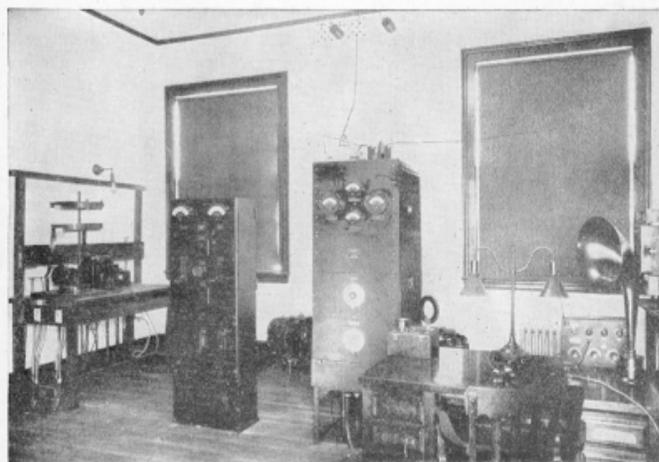

FIG. 4. VIEW OF OPERATING ROOM SHOWING SPARK TELEGRAPH SET AT LEFT
**Radio Telegraph Transmitting Equipment**-Other transmitters are employed for experimental and relay work using the call letters 2 X A P and 2 C D C. At the extreme left of Figure 4 is shown a 1 kilowatt spark transmitter using a 15,000 volt transformer and a non-synchronous rotary gap. In the background of Figure 2 is shown a 100 watt continuous wave telegraph set employing the Colpitt's circuit. This set may also be used as a 50 watt telephone transmitter for local work. It is supplied with 1000 volts direct current obtained by means of two Kenotron rectifiers from a 60 cycle alternating current line. The high power telephone set can be used as a continuous wave telegraph transmitter when necessary. Plans are now being perfected for the construction of a 1000 watt continuous wave transmitting set using the master oscillator circuit. This set will be used in transcontinental and transatlantic tests.